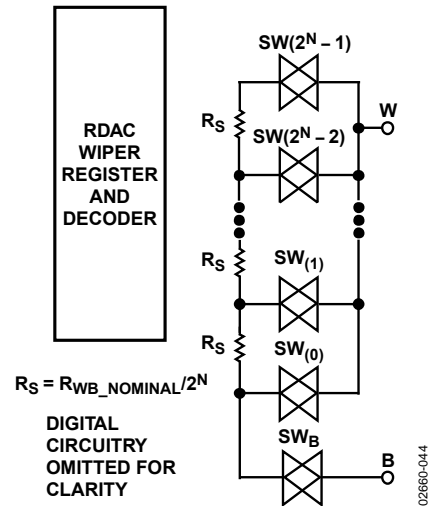

Figure 32. Equivalent RDAC Structure
The RDAC contains multiple strings of equal resistor segments with an array of analog switches that acts as the wiper connection. The number of positions is the resolution of the device. The ADN2850 has 1024 connection points, allowing it to provide better than 0.1% setability resolution. Figure 32 shows an equivalent structure of the connections among the three terminals of the RDAC. The SW_B is always on, while the switches, SW(0) to SW(2^N - 1), are on one at a time, depending on the resistance position decoded from the data bits. Because the switch is not ideal, there is a 30 Ω wiper resistance, R_w. Wiper resistance is a function of supply voltage and temperature. The lower the supply voltage or the higher the temperature, the higher the resulting wiper resistance. Users should be aware of the wiper resistance dynamics, if accurate prediction of the output resistance is needed.
The first connection of the wiper starts at Terminal B for Data 0x000. $R_{WB}(0)$ is 30 Ω because of the wiper resistance, and it is independent of the nominal resistance. The second connection is the first tap point where $R_{WB}(1)$ becomes 24.4 Ω + 30 Ω = 54.4 Ω for Data 0x001. The third connection is the next tap point representing $R_{WB}(2)$ = 48.8 Ω + 30 Ω = 78.8 Ω for Data 0x002, and so on. Each LSB data value increase moves the wiper up the resistor ladder until the last tap point is reached at $R_{WB}(1023)$ = 25006 Ω . See Figure 32 for a simplified diagram of the equivalent RDAC circuit.